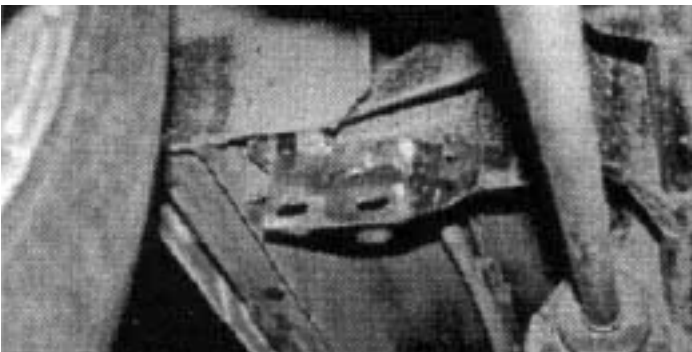

Fig. 5 Rear hanger bracket shown
8. Install front and rear hanger brackets on outrigger (fig 5).